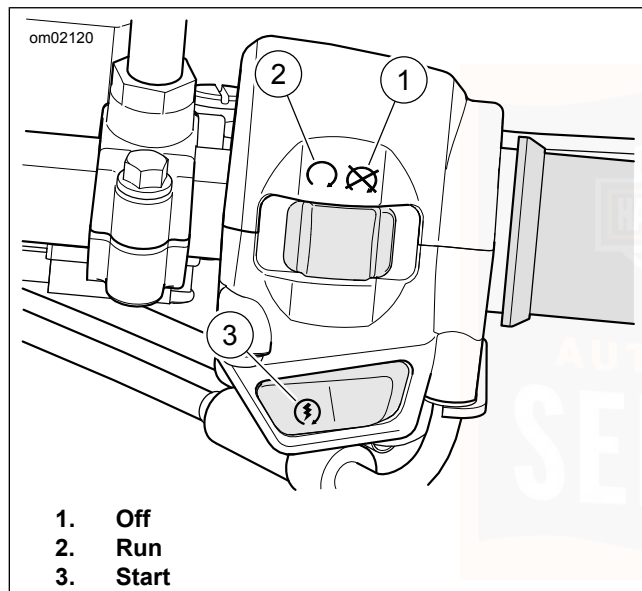

Figure 25. Right Hand Control Switches
See Figure 25. Press the off/run switch to off (1) to turn off the engine. With the off/run switch in the off position, the engine cannot start or run. With the off/run switch in the run position, the engine starts and runs. Refer to Table 22.
See Figure 25. Press the off/run switch to run (2) to turn on the electrical circuits to the engine. With the off/run switch in the run (2) position, the engine starts and runs. Refer to Table 22.
See Figure 25. With the off/run switch in run, press the start switch (3) to start the engine. Refer to Table 22.